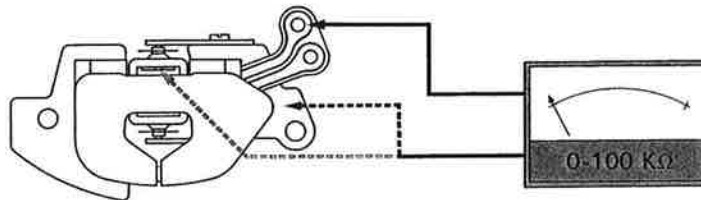

Fig. 15
9.12. Check the insulation of coil in relation to the finger and in relation to the metal carcass (Fig. 15). The resistance must be > (bigger) than 100 K Ω .